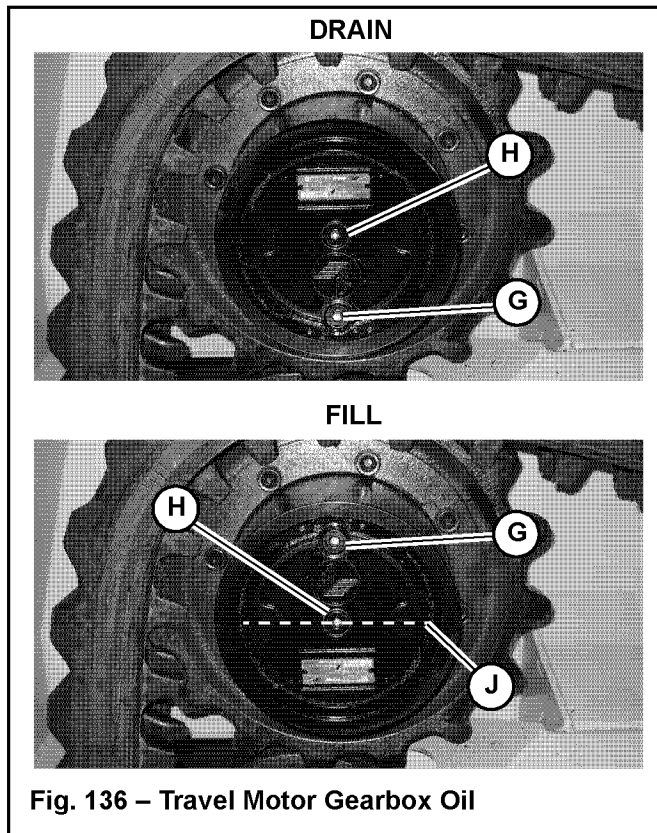

Fig. 136 – Travel Motor Gearbox Oil
1. Park the machine with travel motor gearbox drain/fill hole plug (G, Fig. 136) at the bottom.
3. Position a waste oil collection container with a 1 quart/liter (± 0.10 quarts/liters) underneath the drain/fill hole plug (G).
4. Remove plug (H).
5. Remove drain/fill hole plug (G) and allow the oil to drain completely.
6. Rotate the travel motor gearbox 180° so the drain/fill hole plug (G, Fig. 136) opening is at the top.
7. Fill the travel motor gearbox with the correct grade and type oil. Fill to level (J, Fig. 136).